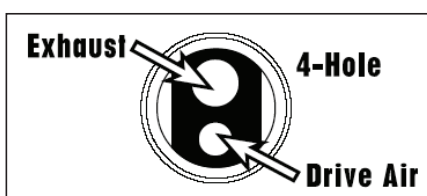

Figure 2
- Lubricate handpiece with one or two drops of Champ-Lube[™] 20+. Place the lubricant cleaner in the drive air hole at the back of the handpiece (Figure 2).
- Lubricate the handpiece with one or two drops of Champ-Lube™ 20+. Place the lubricant cleaner in the drive air hole at the back of the handpiece (Figure 2).